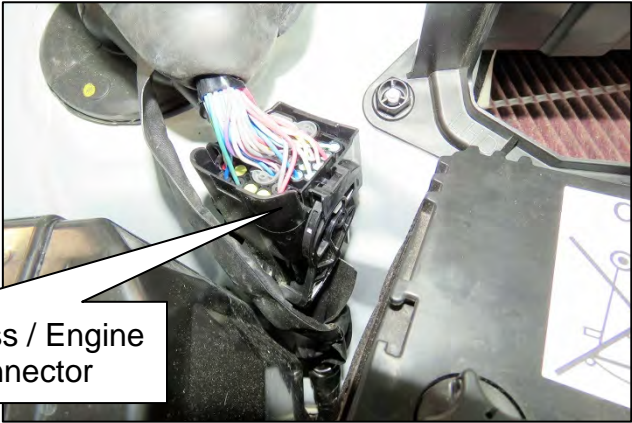

Figure 131
- 199. Reconnect the Engine Control Harness from the Engine Room Harness (Figure 131).